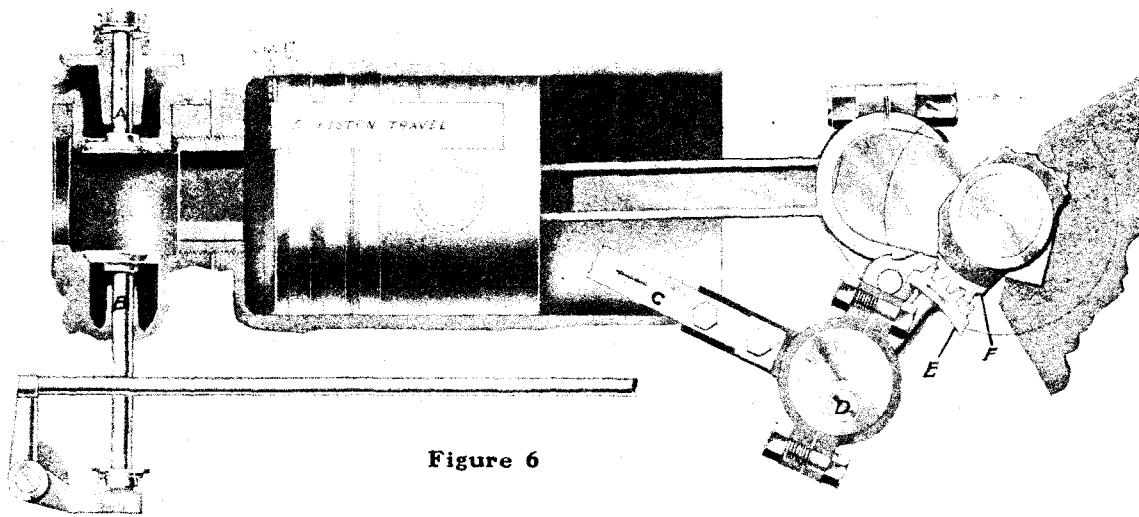
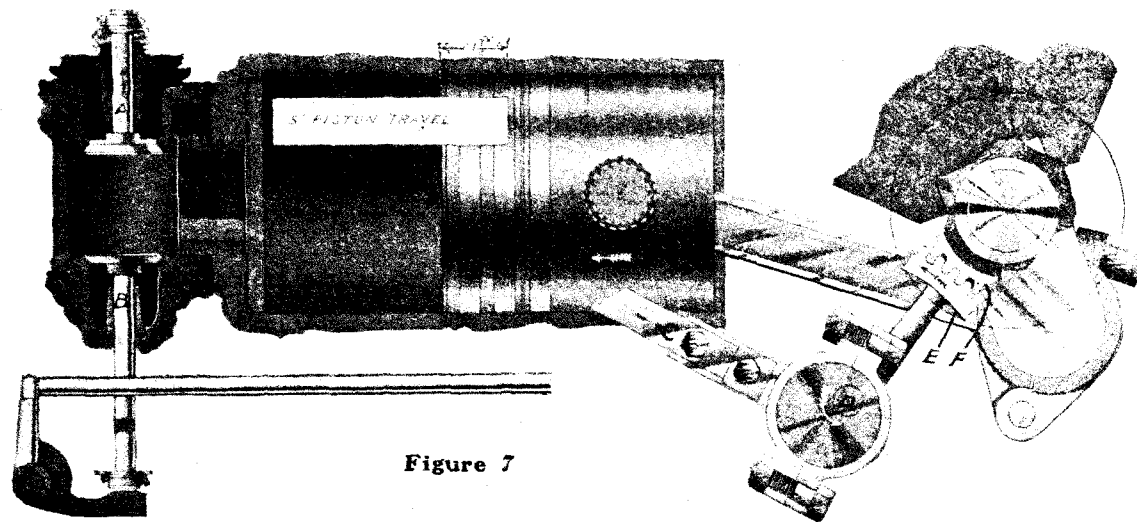
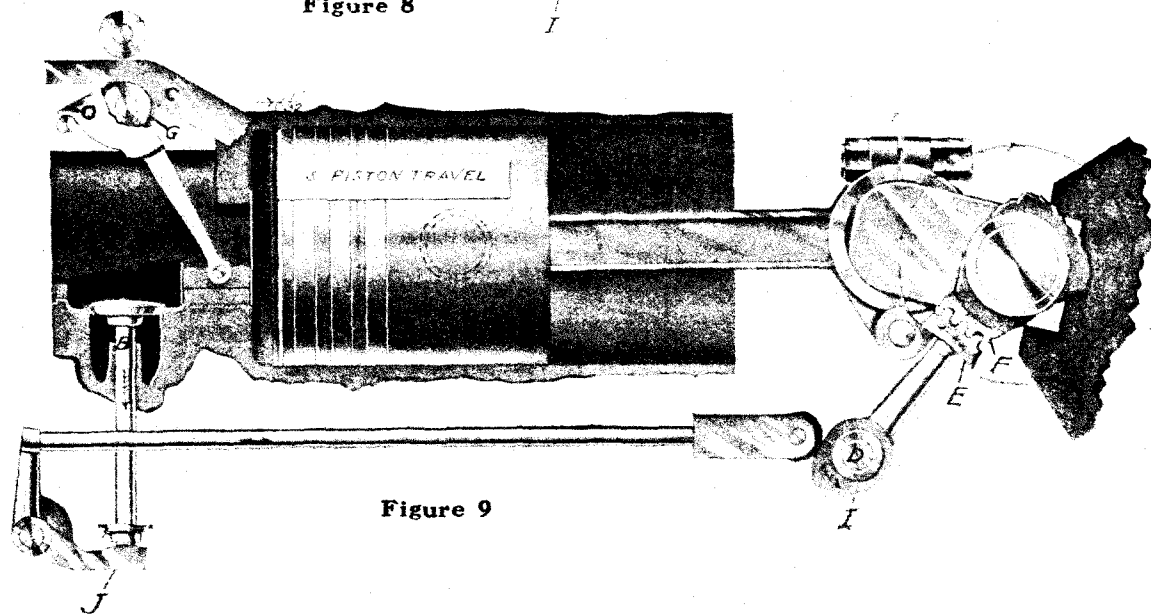

Figure 6
Figure 7
Figure 9
The following is an explanation of our four cycle motor. The cuts (Figs. 6, 7, 8, and 9, pages 16 and 17) show the correct timing of the valves. The same letters refer to the same parts in the different cuts. The piston travel indicated by the white space shown on cylinder is five inches.
Fig. 6 shows the beginning of the first or suction stroke of the cycle. At  $1/16$  inch past the center the inlet valve (A) commences to open, which allows the vapor supplied by the carburetor (Fig. 10) to be drawn into the cylinder, the motor running as indicated by arrows. During this stroke the exhaust valve (B, Fig. 6) is closed. The inlet valve (A) is opened by the eccentric rod (C), its movement being controlled by the eccentric on the secondary shaft (D). This shaft is driven one-half the speed of the motor by the two to one gear (E) and pinion (F).
Fig. 7 illustrates the beginning of the second or compression stroke at the closing point of the inlet valve, both valves being closed during this stroke.
Fig. 9 shows the position when the exhaust valve (B) has just closed just  $1/32$  inch past the dead center. The inlet valve (A) will open  $1/32$  inch later, admitting new vapor as in Fig. 1.
To set the valves after the shaft has been removed, proceed as follows: First, turn the crank shaft so that the center of the crank pin will be in the same horizontal plane with the center of the crank shaft, having the crank pin at the same time extending back toward the cylinder of the motor. By referring to Fig. 9 on page 17, you will see that the crank pin is in very nearly the position suggested above; although the crank pin must be dropped a little lower than shown on the cut, to bring its center in the same horizontal plane as the center of the crank shaft. Then mesh the valve gears so that the commutator key, which is in the end of the commutator shaft, will be in a vertical position, and will point either directly up, or directly down, when the crank pin bears the relation to the crank shaft above specified. Use special care to make
open and down as it would be when the throttle is wide open. Turn the fly wheel in the direction the motor runs until the inlet lever roll (S, Fig. 10, page 20) begins to bear on the inlet push rod. (C, Fig. 9, page 17). Insert the fingers in the spark plug hole and see that the inlet valve is not off its seat. The inlet push rod at the least movement of the fly wheel will now start to open the inlet valve. However, stop in this position and, if the engine is new, you will find the inlet valve opening  $1/16$  of an inch past center as indicated in Fig. 6, page 16. To measure this distance, insert a rule and turn the fly wheel backwards, noting the distance the piston pushed the rule outward. This will be the time the inlet valve opens after the piston has passed the center. An engine that has been run for some time will probably open  $1/8$  or  $3/16$  past center. An engine in this condition would be considered out of time. The closing of an inlet valve is determined by turning the engine forward making sure that you are again holding the inlet lever down and open as above. Turn the fly wheel forward until the inlet lever roll begins to loosen, but is still contracting on the inlet push rod. Make sure that your valve is closed; try again to twist the inlet valve, which should be on its seat. This we term the closing of the inlet valve, and on a new engine would be  $1/2$  inch past center (Fig. 7, page 16).
is set correctly, an inlet valve that is out of time will open late and close early. Both of these errors may be corrected by removing the two screws, clip and shim in push rod C, Fig. 6. In all probability you will have to elongate the holes in the push rod in order that it may be pushed up slightly to produce the original timing of the inlet valve. After elongating the holes it will be necessary to make a new shim by filing down a piece of one-quarter inch square stock. One hundredth or one sixty-fourth of an inch is usually enough to put the valve in proper time. One who is familiar with the setting of a valve can determine the size of shim at once, but a beginner will probably have to make two or three trials.
The speed of the motor is controlled by the cam lever (O), which throws the roller (G, Figs. 9 and 10) farther under, the lever (C) giving the roller (S) on lever (T, Fig. 10) more or less throw, thus giving valve (A) more or less opening, admitting a greater or less amount of gasoline and air.